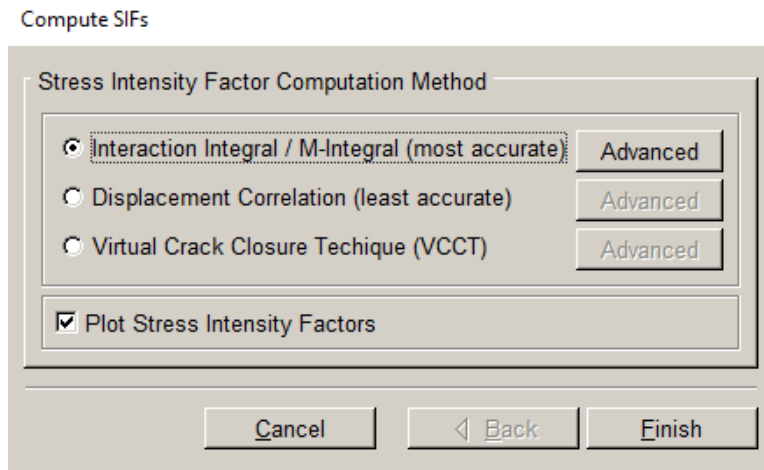

Figure 6.4.1 Compute SIFs panel allows one to choose either M-integral, DC or VCCT.
The **Compute SIFs** menu option brings up the Compute SIFs dialog box, Fig 6.4.1. Either the M-integral, Displacement Correlation (DC) or Virtual Crack Closure (VCCT) method can be chosen to compute the SIFs. The M-integral method1 is usually the most accurate. The DC option can be used to check the M-integral values. For models where a crack front template cannot be added, displacement correlation currently is the only option. The VCCT method was implemented for cracks in material interfaces.